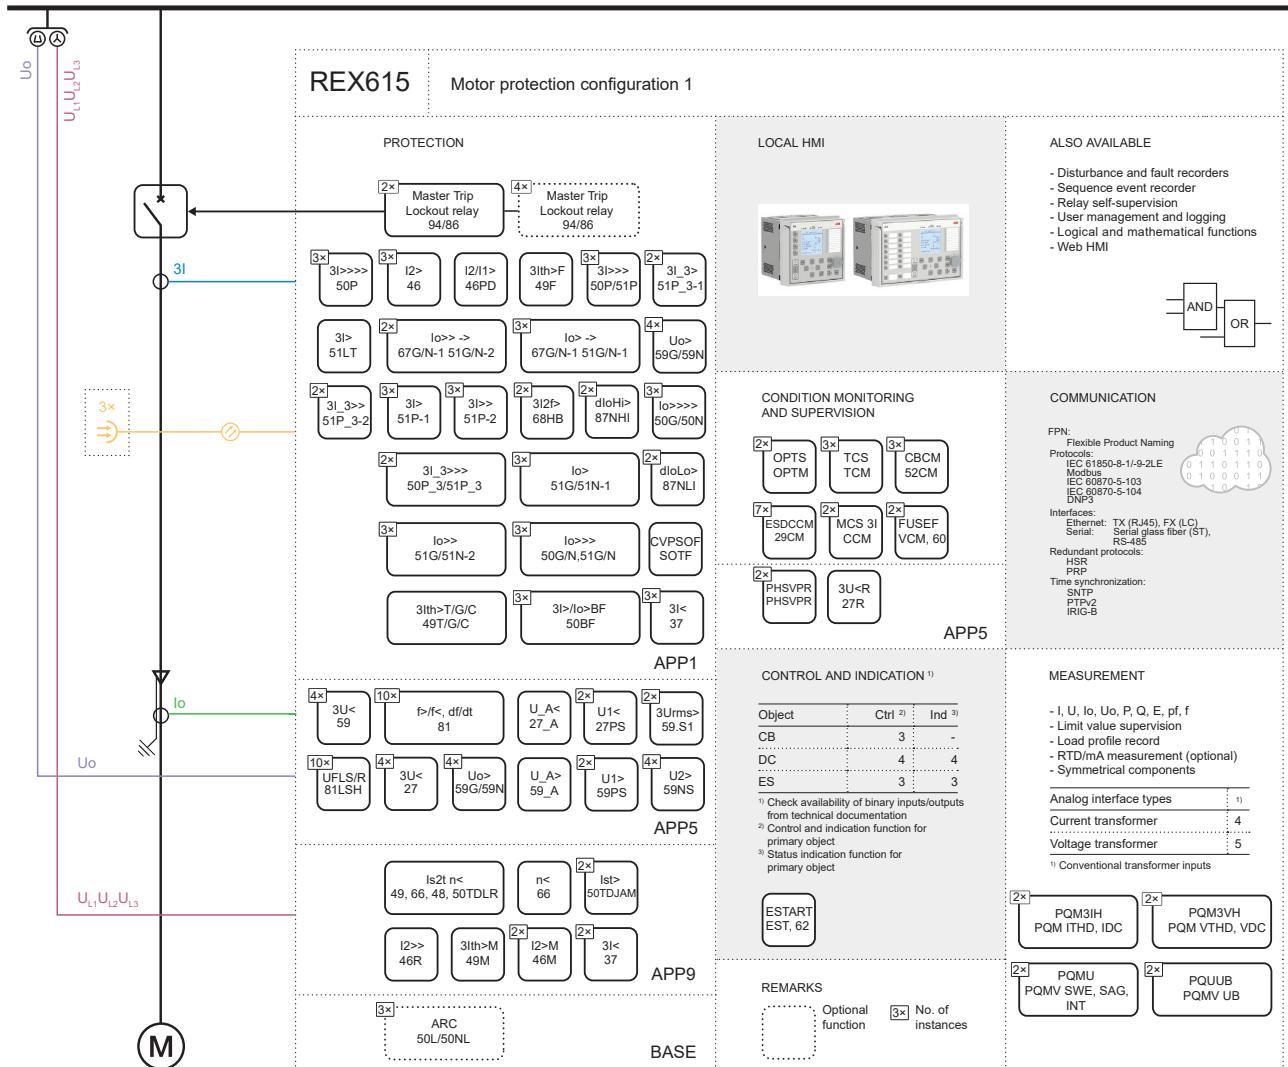

Figure 10: Motor protection configuration 1
*Figure 10* presents REX615 in an asynchronous motor application. The base functionality is enhanced with application packages providing basic current protection (APP1), voltage protection (APP5) and machine protection application package (APP9). Conventional measuring transformers are used in the example case. Typically used analogue input cards are AIM16 (four current inputs) and AIM6